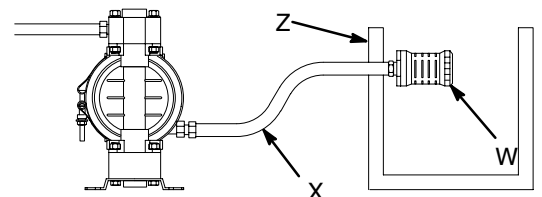

Fig. 2
A bleed-type master air valve (B) is required in your system to relieve air trapped between this valve and the pump. See Fig. 2. Trapped air can cause the pump to cycle unexpectedly, which could result in serious injury, including splashing in the eyes or on the skin, injury from moving parts, or contamination from hazardous fluids.
1. Install the air line accessories as shown in Fig. 2. Mount these accessories on the wall or on a bracket. Be sure the air line supplying the accessories is electrically conductive.
- a. The fluid pressure can be controlled in either of two ways. To control it on the air side, install an air regulator (G). To control it on the fluid side, install a fluid regulator (J) near the pump fluid outlet (see Fig. 2).
- b. Locate one bleed-type master air valve (B) close to the pump and use it to relieve trapped air. Read the **WARNING** above. Locate the other master air valve (E) upstream from all air line accessories and use it to isolate them during cleaning and repair.
- c. The air line filter (F) removes harmful dirt and moisture from the compressed air supply.
2. Install an electrically conductive, flexible air hose (C) between the accessories and the 1/4 npt(f) pump air inlet. Use a minimum 1/4" (6.3 mm) ID air hose. Screw an air line quick disconnect coupler (D) onto the end of the air hose (C), and screw the mating fitting into the pump air inlet snugly. Do not connect the coupler (D) to the fitting yet.
A fluid drain valve (H) is required in your system to relieve pressure in the hose if it is plugged. See Fig. 2. The drain valve reduces the risk of serious injury, including splashing in the eyes or on the skin, or contamination from hazardous fluids when relieving pressure. Install the valve close to the pump fluid outlet.
1. Use electrically conductive fluid hoses (K). The pump fluid outlet is 1/2 in. or 3/4 in. Screw the fluid fitting into the pump outlet snugly. **Do not overtighten.**
2. Install a fluid regulator (J) at the pump fluid outlet to control fluid pressure, if desired (see Fig. 2). See **Air Line**, step 1a, for another method of controlling pressure.
3. Install a fluid drain valve (H) near the fluid outlet. Read the **WARNING** above.
Diaphragm failure will cause the fluid being pumped to exhaust with the air. Place an appropriate container at the end of the air exhaust line to catch the fluid. See Fig. 2 .
See **Venting Exhaust Air** in Fig. 2. Exhaust to a remote location as follows:
1. Remove the muffler (W) from the pump air exhaust port.
2. Install an electrically conductive air exhaust hose (X) and connect the muffler to the other end of the hose. The minimum size for the air exhaust hose is 3/8 in. (10 mm) ID. If a hose longer than 15 ft (4.57 m) is required, use a larger diameter hose. Avoid sharp bends or kinks in the hose.
3. Place a container (Z) at the end of the air exhaust line to catch fluid in case a diaphragm ruptures. See Fig. 2.
1. Fig. 2 and Parts Drawings. Follow preceding steps 1 through 8 of **Starting and Adjusting Pump**.
2. Open air regulator (G).